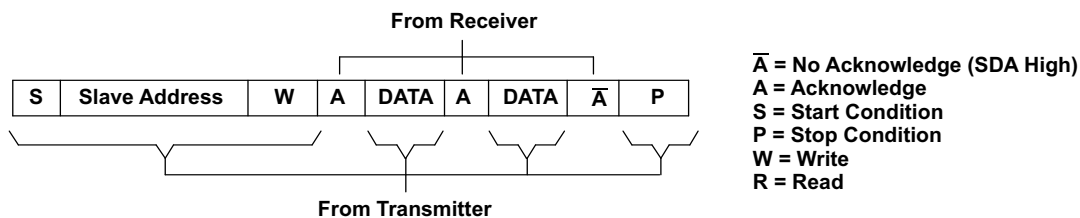
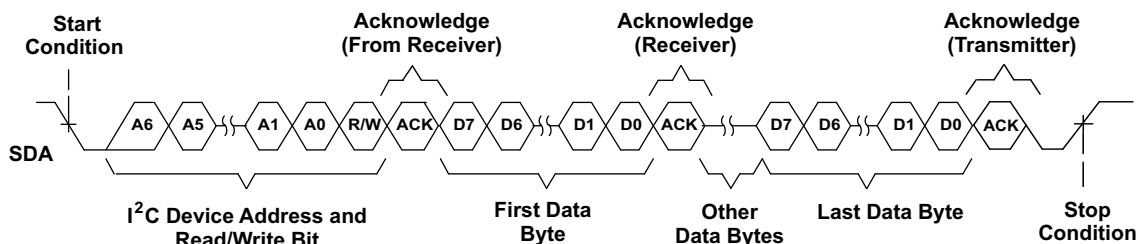
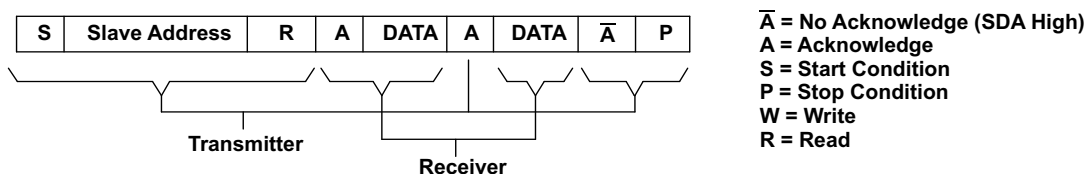
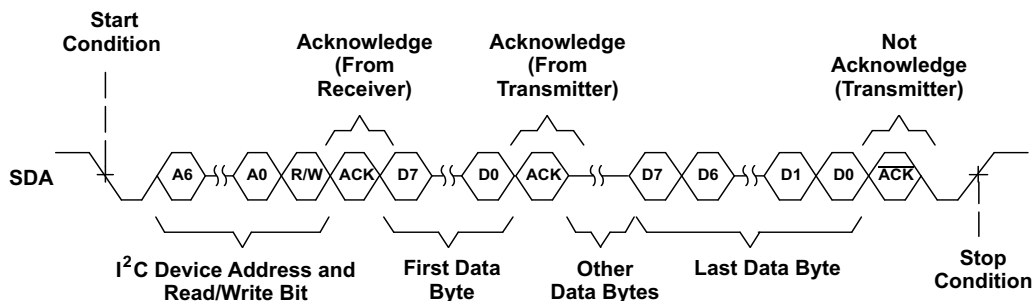

Figure 62. I²C Write Cycle
Figure 63. Multiple Byte Write Transfer
Figure 64. I²C Read Cycle
Figure 65. Multiple Byte Read Transfer
During a write cycle, the transmitting device must not drive the SDA signal line during the acknowledge cycle, so that the receiving device may drive the SDA signal low. After each byte transfer following the address byte, the receiving device pulls the SDA line low for one SCL clock cycle. A stop condition is initiated by the transmitting device after the last byte is transferred. An example of a write cycle can be found in Figure 62 and Figure 63. Note that the THS7313 does not allow multiple write transfers to occur. See example section – Writing to the THS7313 for more information.
acknowledges data bytes sent by the slave. When the master has received all of the requested data bytes from the slave, the not acknowledge (A) condition is initiated by the master by keeping the SDA signal high just before it asserts the stop (P) condition. This sequence terminates a read cycle as shown in Figure 64 and Figure 65. Note that the THS7313 does not allow multiple read transfers to occur. See example section – Reading from the THS7313 for more information.
The THS7313 operates using only a single byte transfer protocol similar to Figure 62 and Figure 64. The internal subaddress registers and the functionality of each are found in Table 2. When writing to the device, it is required to send one byte of data to the corresponding internal subaddress. If control of all three channels is desired, then the master has to cycle through all the subaddresses (channels) one at a time, see the example section –*Writing to the THS7313* for the proper procedure of writing to the THS7313.